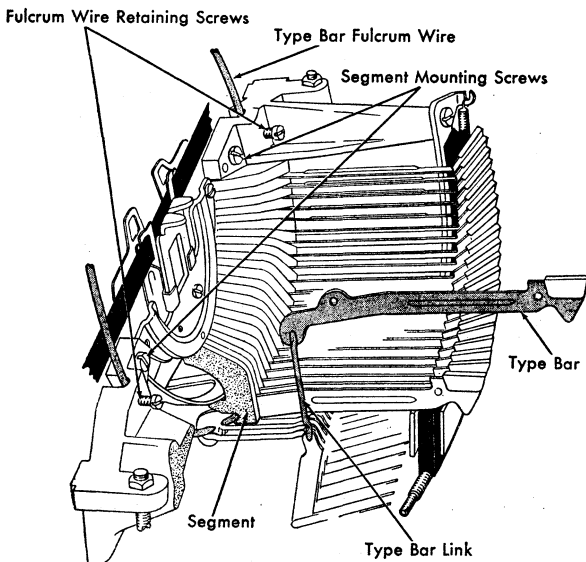

Figure 5. Type Bar Removal
1. Loosen the two type bar fulcrum wire retaining screws (Figure 5).